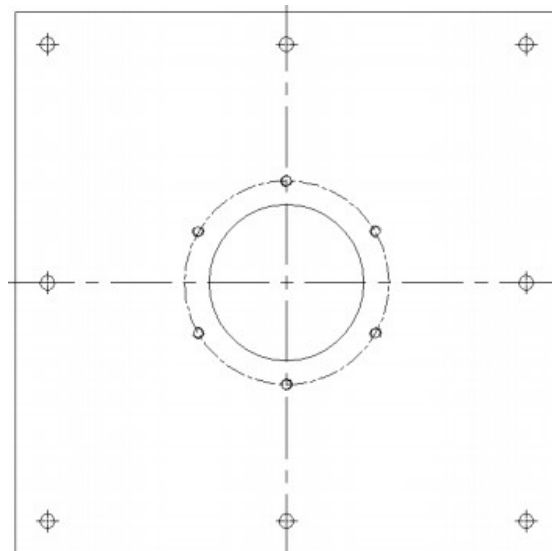

Figure 5-2 (big plate structure)
- a. Use the hole on the big bottom plate configured by Alekcrane as the guide (Figure 5-2), Drilling holes in concrete floors that meet the requirements (The choice of drilling size is based on the recommendations of the chemical bolt manufacturer)